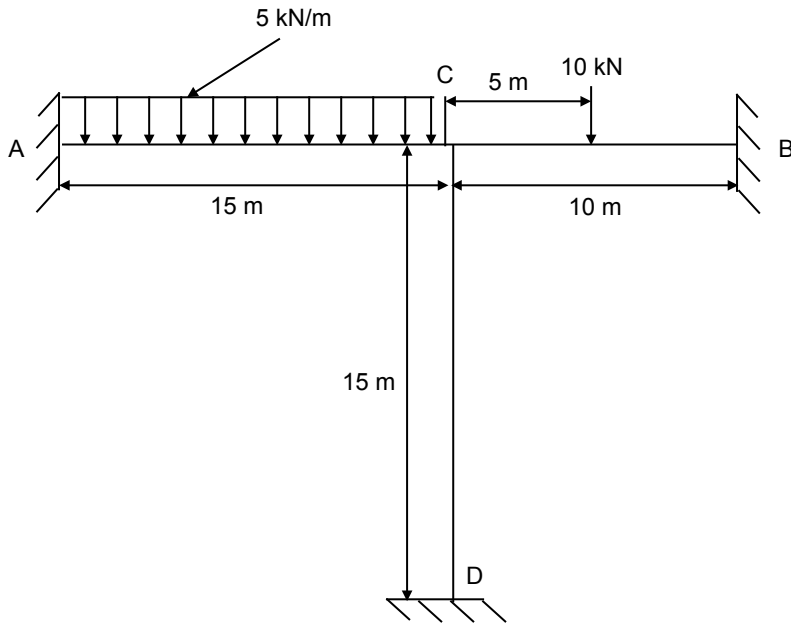

Figure 4
Q.4 Figure 4 shows a portal frame. Find the reactions at the supports A and B.